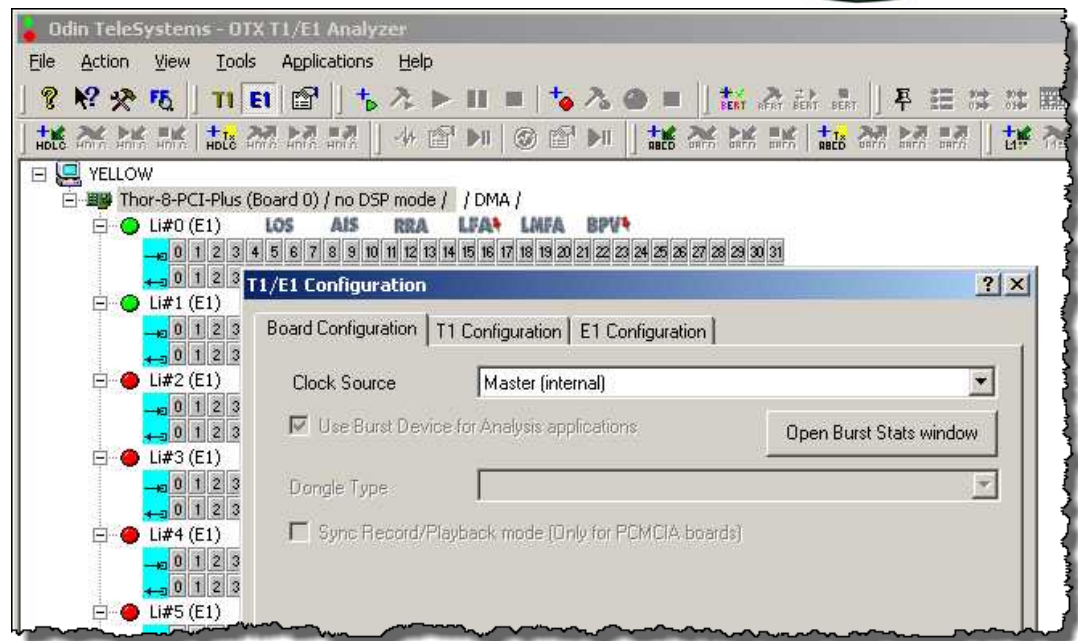

Figure 22 Setting Board Configuration.
4. Select the board level as the scope of operations. Right button click on the board name and select the "Properties..." menu item. On the "Board Configurations" tab of the "T1/E1 Configuration" window set "Clock Source" option to "Master (internal)" (See Figure 22). Press "OK".